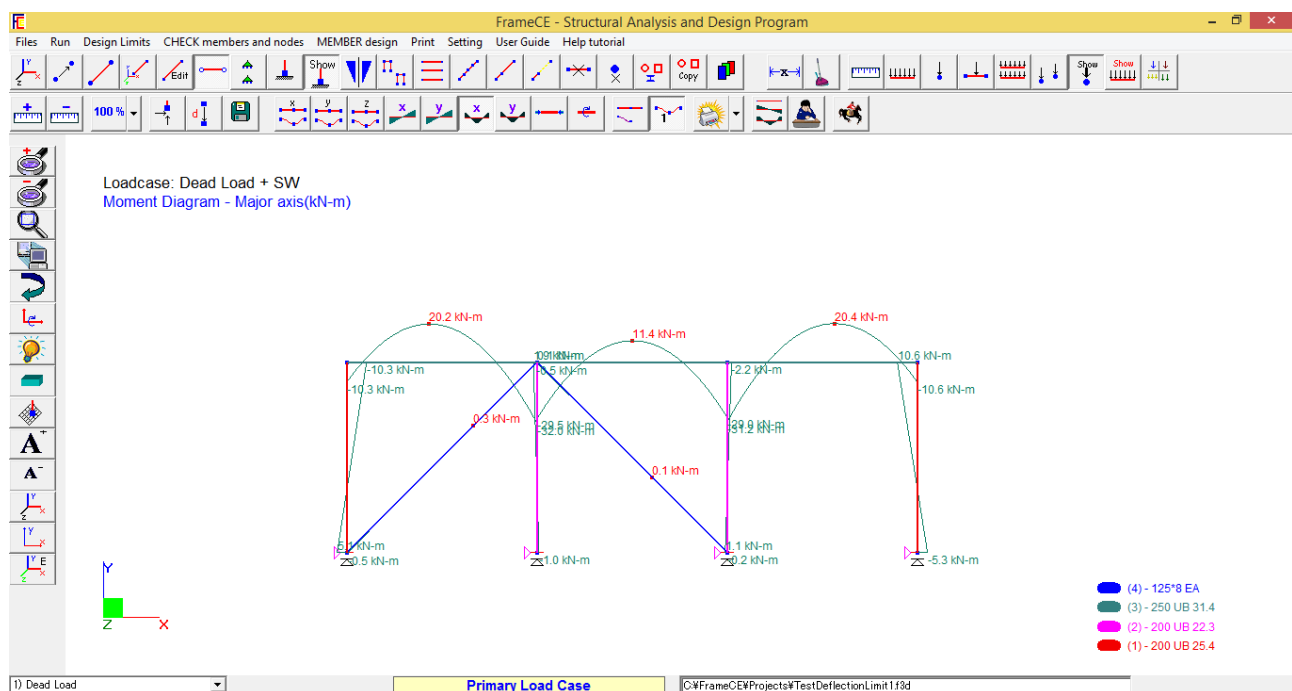

Figure 78
**Step 2:** View the analysis results. (For example the moment diagram) as shown in Figure 78;